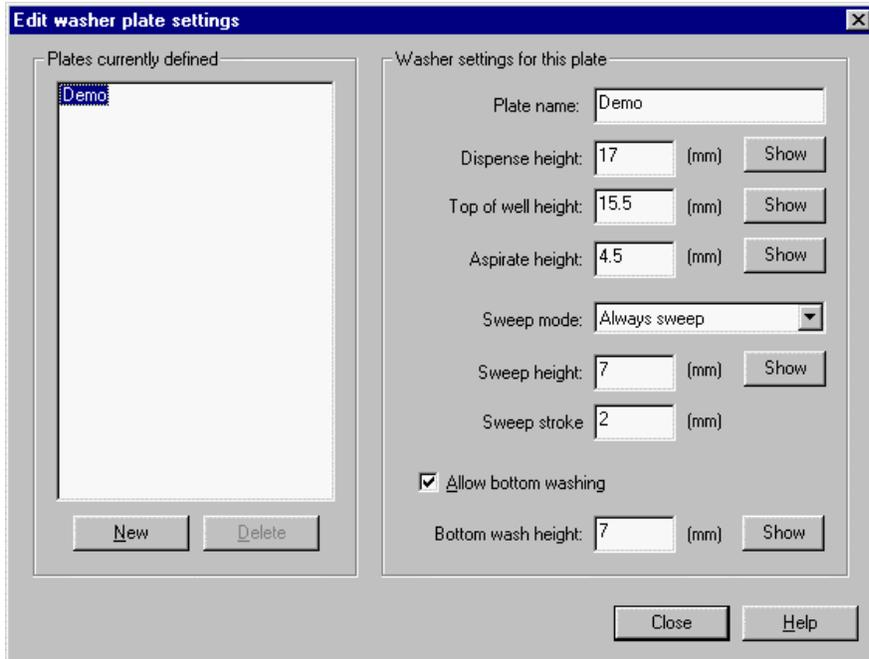

Figure 24. Edit Washer Plate Settings Dialog Box
4. Select **Edit Washer Plates...** from the **Tools** menu. The Edit Washer Plate Settings dialog box is displayed (Figure 24).